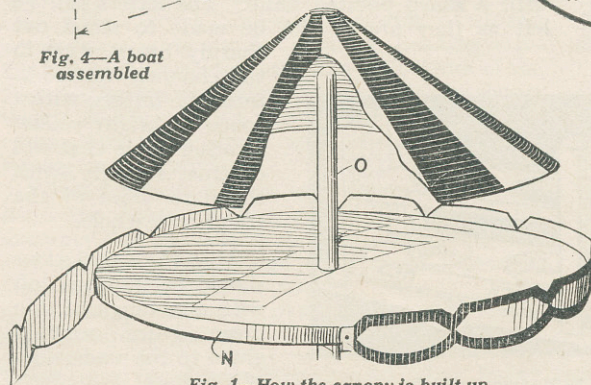

Fig. 1—How the canopy is built up
In dealing with the roof section, the first piece to mark out and cut will be the large circular disc N in Fig. 1. This should be cut from  $\frac{3}{16}$ in. plywood with a hole made in the centre to tightly fit the upright spindle.
The stand, it will be remembered, was built up of three main parts as indicated in the inset, Fig. 2. A variation may be made, however, by carrying the section (A) from the foot of the side pieces to a position level with the top of the bottle, Fig. 1. This part (A) is not bevelled in this case and it is a trifle narrower than the upright. It is held in position by sprigs driven in from either side through the uprights into the ends.
by having two cross-pieces, one at the base and one at the upper level. The lower one should be bevelled as in the original design and the upper one plain as in Fig. 1.